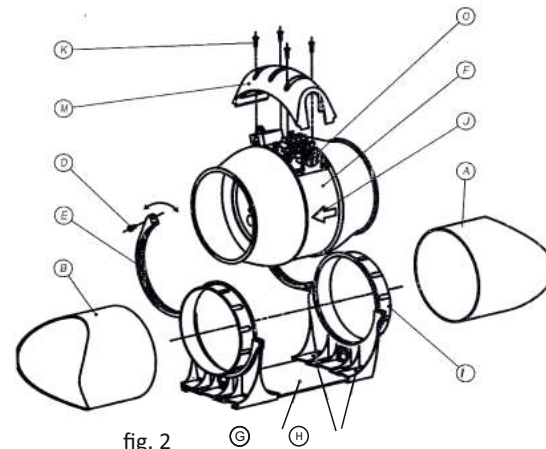

fig. 2
Make sure that the voltage (V) and frequency (Hz) of the power supply correspond to the values indicated on the nameplate. The appliance must be able to be disconnected from the mains electricity supply after installation. It can be disconnected by making the plug accessible or by incorporating a switch in the fixed wiring that meets electrical installation standards. The appliance must be permanently connected with wiring for fixed installation. (2- or 3-core cable with a minimum cross-section of 1 mm² and maximum of 1.5 mm²). To complete the electrical connection, follow the wiring diagram depending on the model that you wish to connect (see fig. 3A, 3B, 3C). No earthing connection is required, given that this is a doubly-insulated appliance (Class II). Remove the connection cover as shown in fig. 2. Perforate the flex holder (O) to allow the power supply wires to pass through.